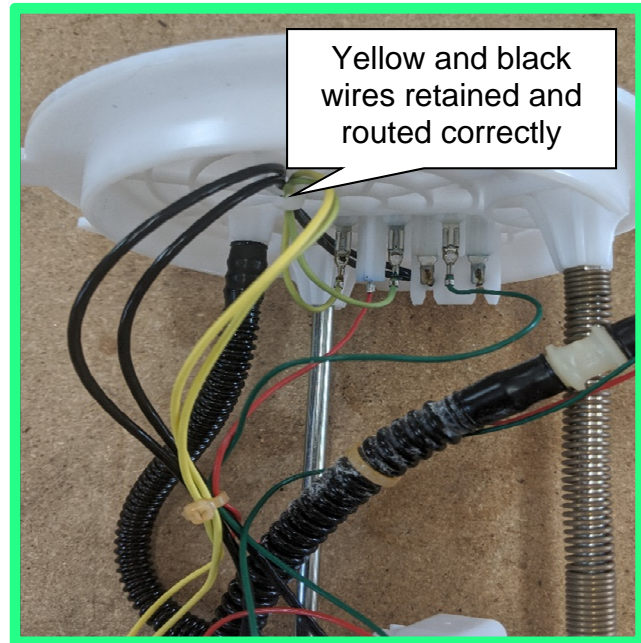
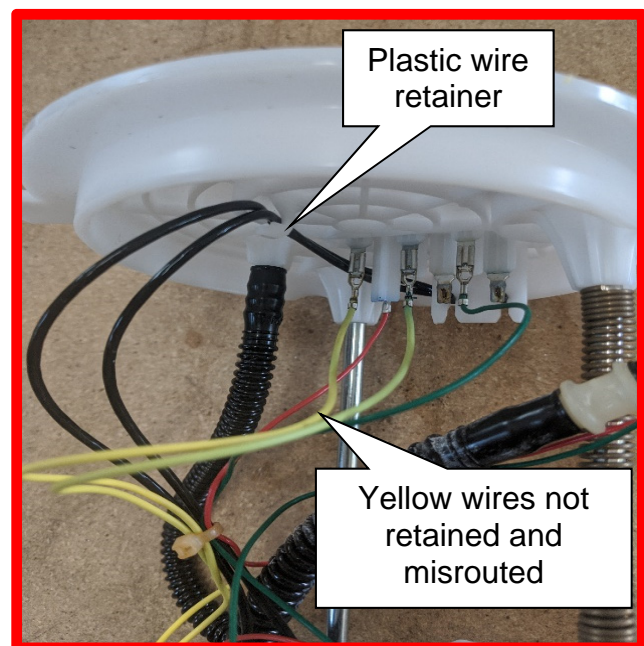

Figure 1
Figure 2
2. Inspect the routing of the yellow wires on the fuel pump assembly. The yellow and black wires should be routed the same way and retained at the top by the plastic wire retainer as shown in Figure 1.
- If the wires are not routed correctly, as shown in Figure 2, route them as shown in Figure 1.